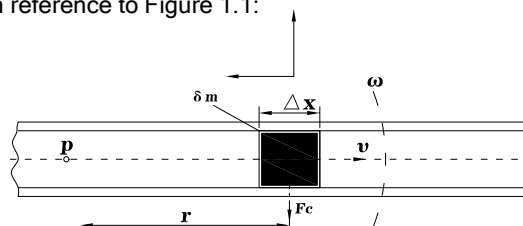

Figure 1-1
If a pipe is rotated around a point (P) while liquid is flowing through it (toward or away from the center of rotation), that fluid will generate an inertial force, with reference to Figure 1.1:
The force generated by tangential acceleration is Coriolis force, its value is equal to $F_c = 2wv\delta m$. In figure 1.1 fluid $\delta m = \rho A \times \Delta X$, So Coriolis force can be expressed as: